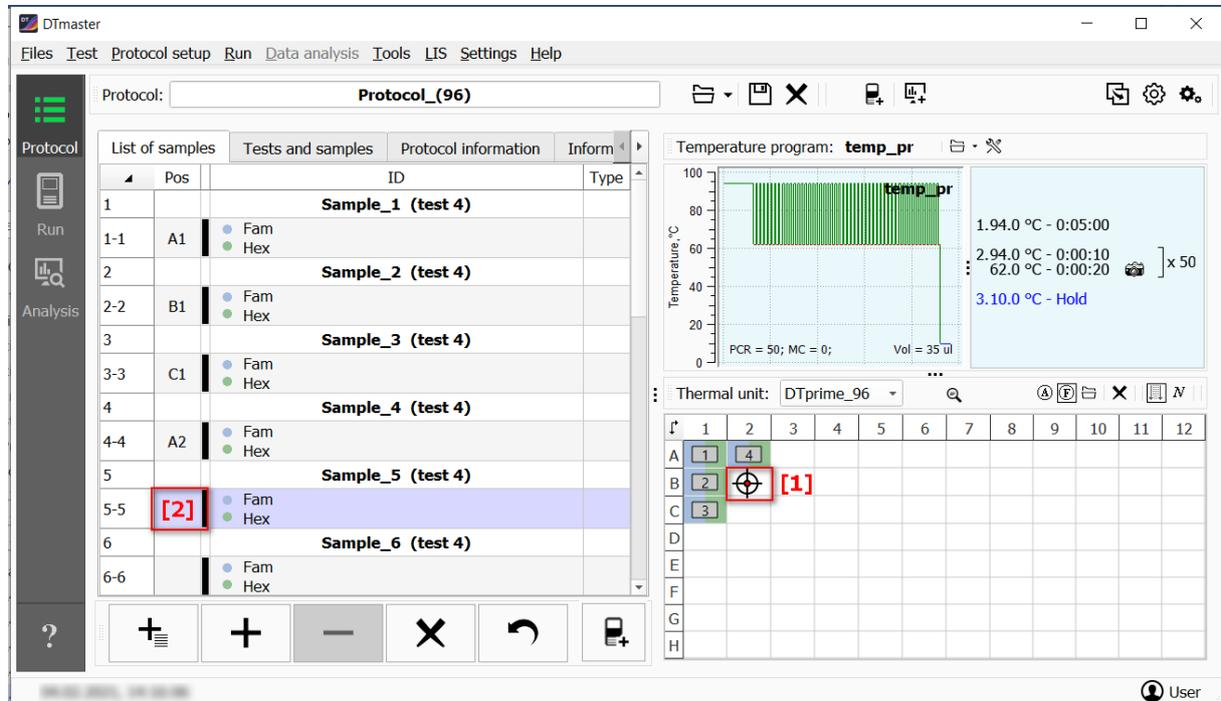

Figure 31 – Manual layout of tubes
- 3 The corresponding records will be displayed on the layout diagram and in the column of the sample position [2] (fig. 31).